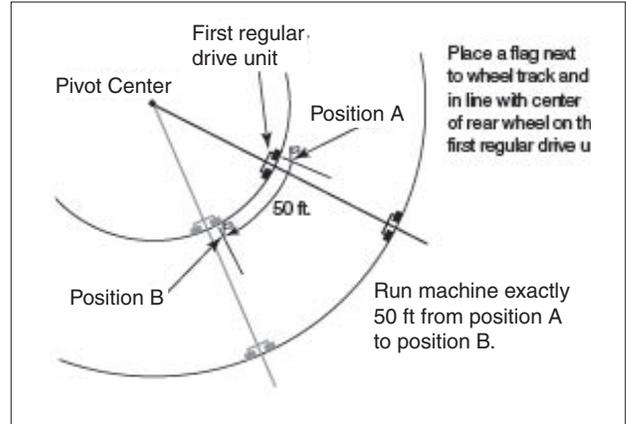

Figure 27-1
2. Place a flag next to the wheel track and in line with the center of the rear wheel on the first regular drive unit. This is position A. Refer to Figure 27-1.